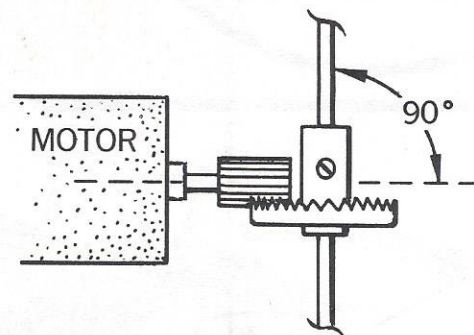

FIG. 2 — TOP VIEW
3. The center line of the motor shaft should also intersect the axle at a 90° angle when viewed from the top. (See Figure 2)